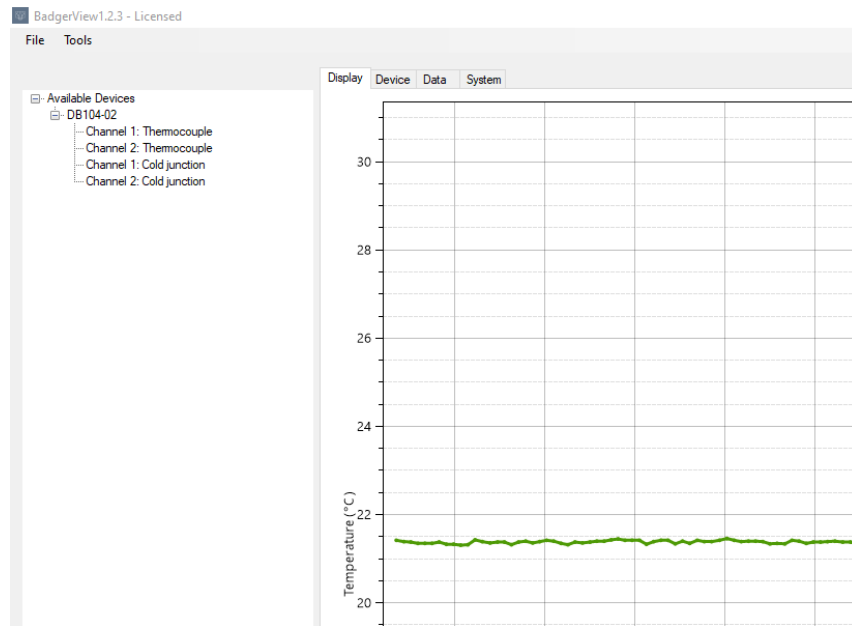

Figure 9: Data channel acquisition
3. BadgerView will request data at the sampling rate set in the System tab. Data acquired will be displayed on the data chart, as shown in Figure 9.